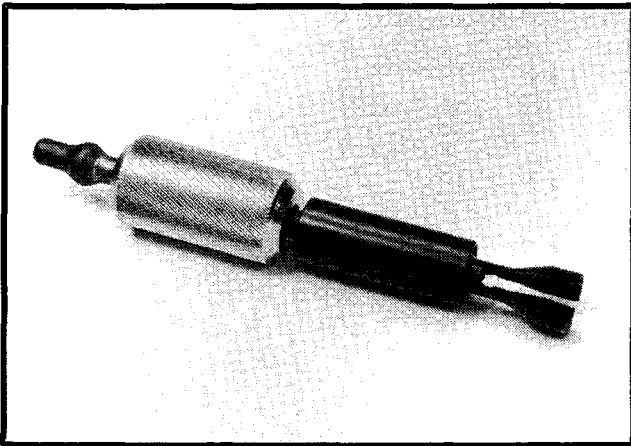

Figure 29.
6. Using tool CU40004 remove the valve stem oil seals. See Figure 29.